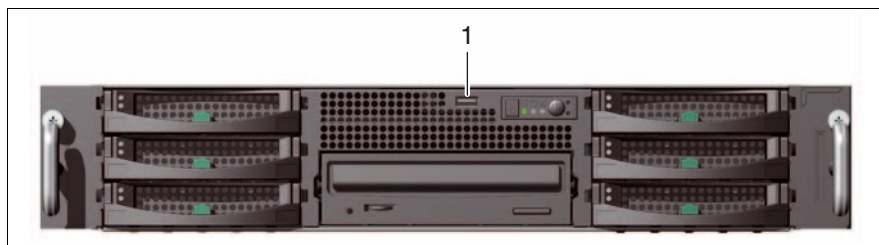

Figure 9: USB port on the front
You can find an additional USB port (1) on the front of the server (figure 9):